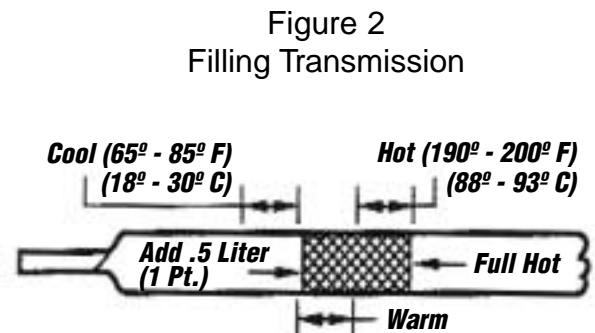

Figure 2
7. Lower the vehicle to the ground, start the engine, check the fluid level, and add fluid to the full mark. (Fig. 2)